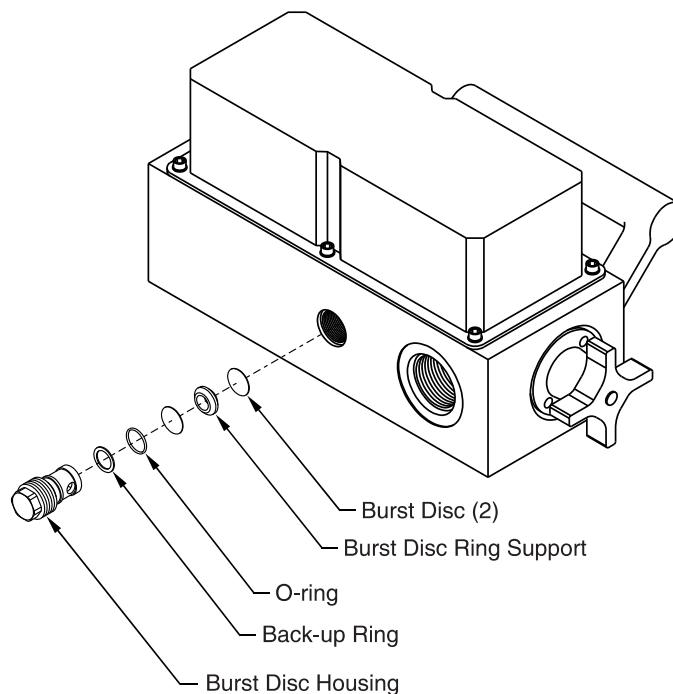

FIGURE 12 - Burst Disc Replacement
1. Position the Flo-Check to expose the internal burst disc housing as shown in **Figure 12**.